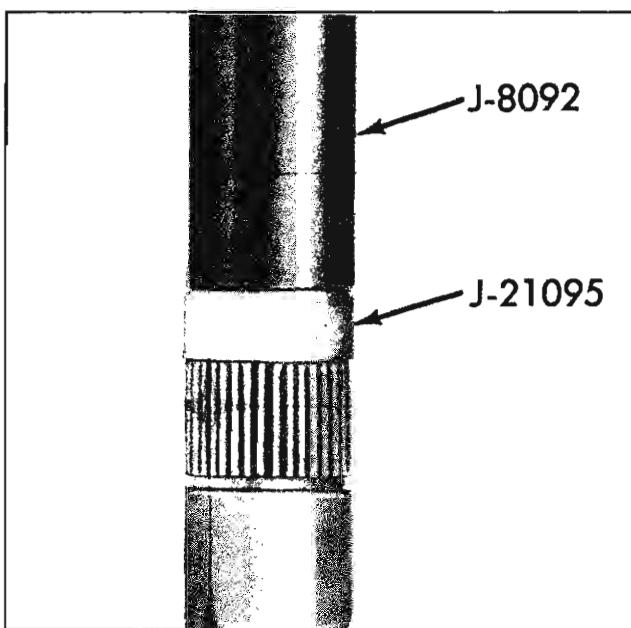

Fig. 7A-55 Installing Turbine Shaft Bushing
2. Install new bushing using tool J-21096 as shown in Fig. 7A-56.